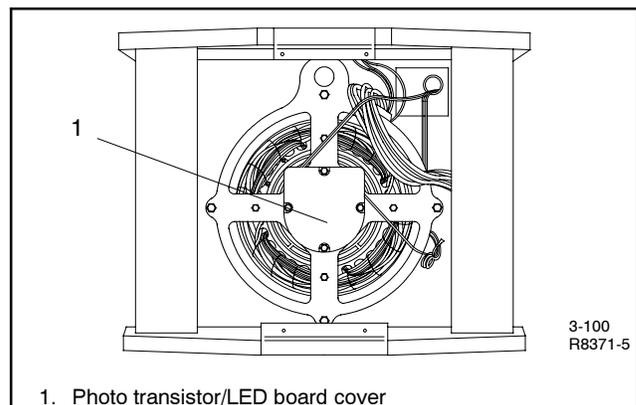

Figure 3-3 Photo Transistor Board Cover
- Remove the junction box panels from the generator end of unit and remove the photo transistor board/LED board cover. See Figure 3-3.